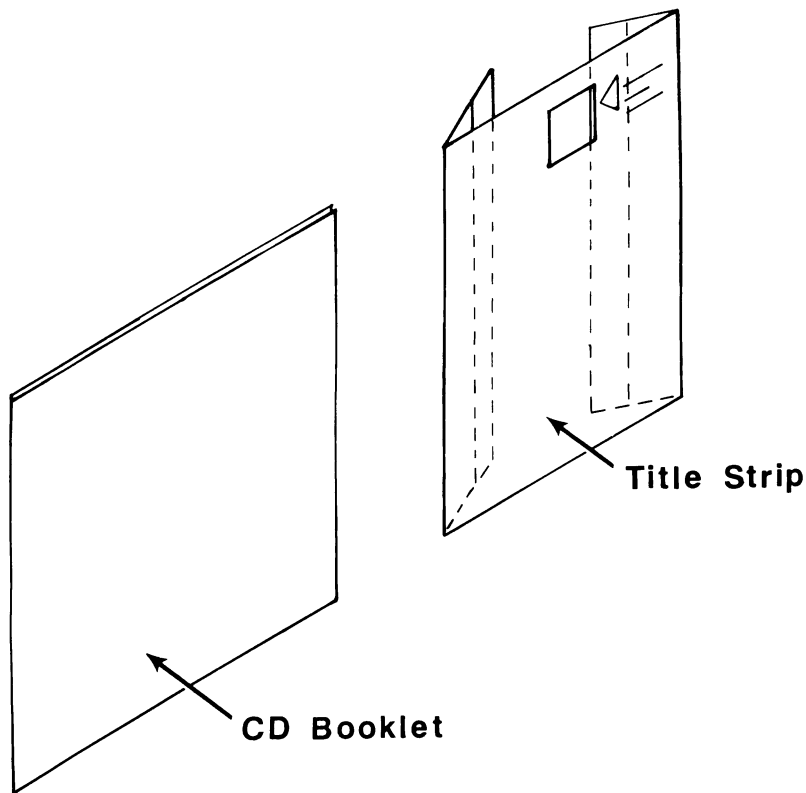

Figure 2-3. Folding The Title Strip
2. Fold the title strip along the inner most perforated line on both sides of the title strip (*see figure 2-3*).